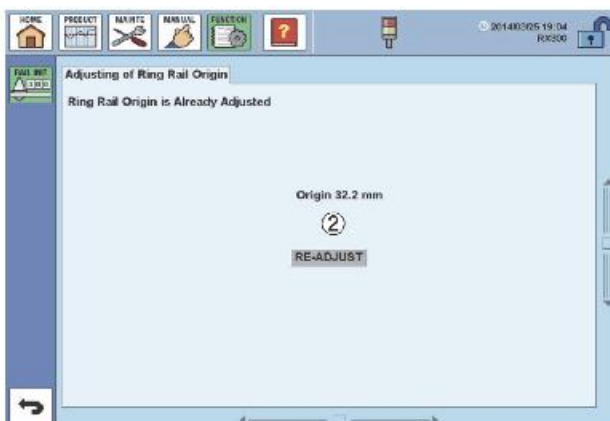

Fig. 9 Ring rail origin setting (Complete)
2. When setting is complete, the screen display is as shown in Fig. 9.
3. For resetting after setting completion, touch the [RE-ADJUST] switch ② in Fig. 9.
Touch the [CONFIRM] switch to display the ring rail origin adjusting screen (Fig. 9).